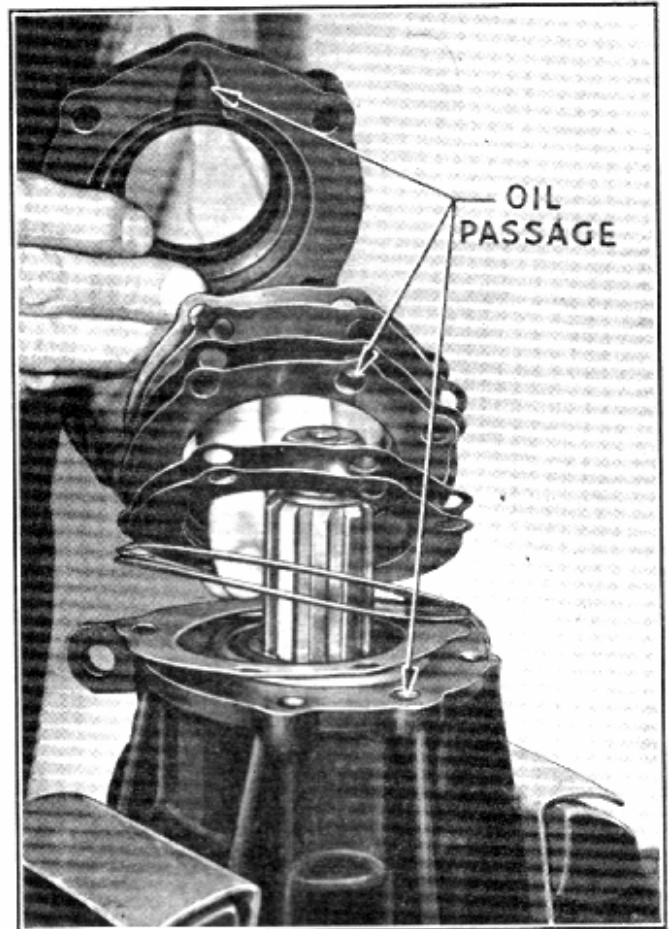
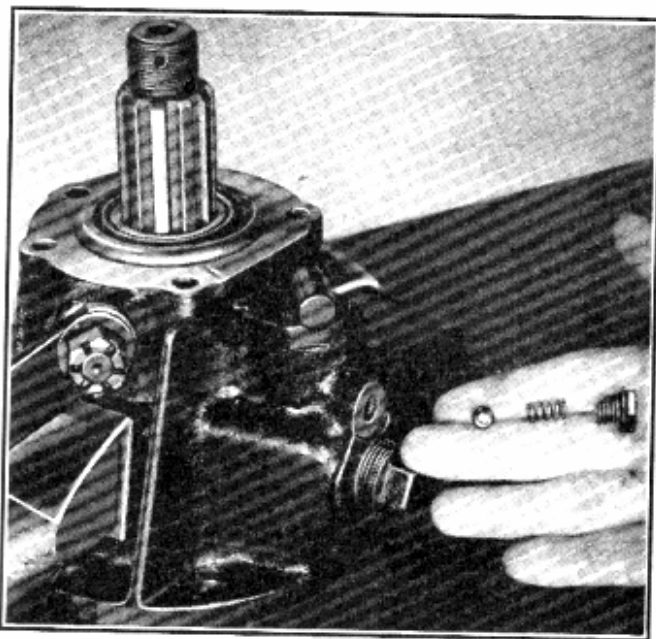

Fig. 28—Oil Passages in Declutching Carrier, Shim, Gasket and Cap Must Line Up as Shown
Fig. 29—Poppet Ball, Spring, Washer and Screw are Installed in Declutching Carrier in Order Shown
7. Install the poppet ball (59) and spring (58) using the special plug (57) to hold them in place. The order in which these parts are installed is illustrated in Fig. 29.
8. Install the bearing cap (71) using a new gasket (70) and the same shims as were removed at disassembly.
**CAUTION:**—Be sure that the oil passage holes in the gasket, shims and cap, line up with the passage at the bottom of the carrier, as illustrated in Fig. 28.
11. Check the poppet spring (20) with the specifications shown at the end of this section. If the spring is within the limits, assemble the poppet ball (19), spring (20) and special screw (21) in the order shown in Fig. 29.